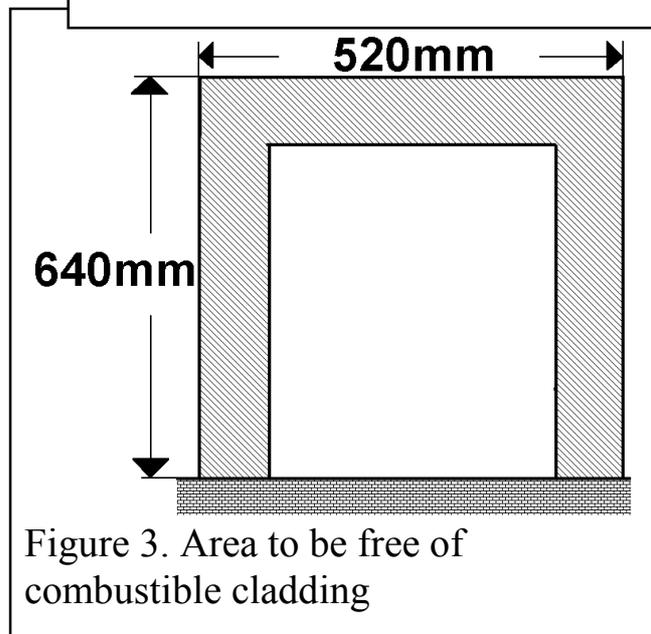

Figure 3. Area to be free of combustible cladding
**2.14** If the fire is to be fitted against walls with combustible cladding, the cladding must be removed from the area shown in figure 3.